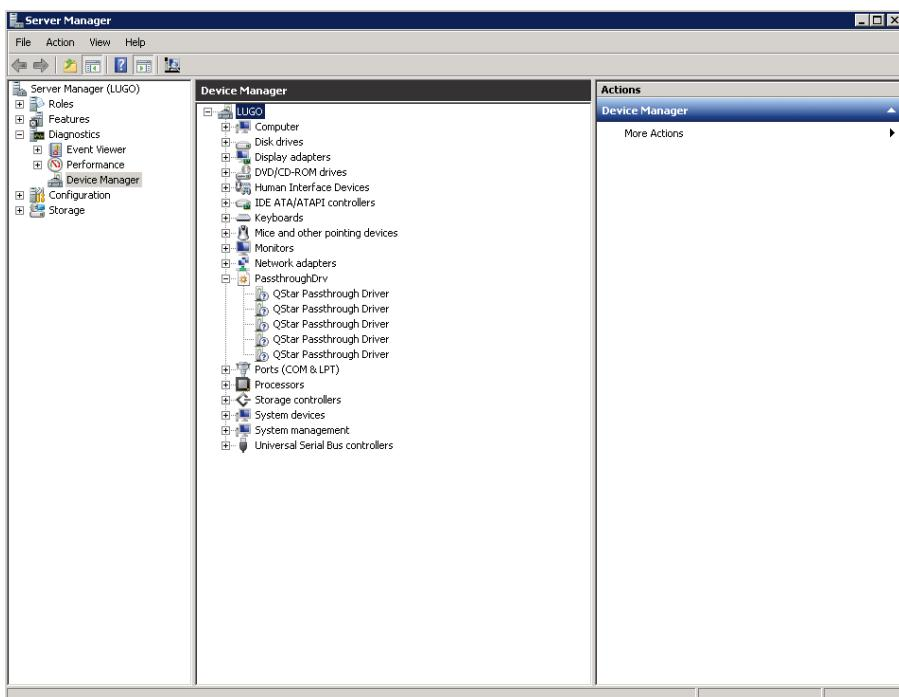

Figure 11. QStar pass-through driver installed for an MSL6480 Tape Library and four LT0-6 tape drives
14. Once the system has rebooted, you can verify that QStar ASM has successfully claimed the devices by opening the Windows Device Manager. All devices claimed by QStar ASM will be listed under **PassthroughDrv**. See **figure 11** as an example.